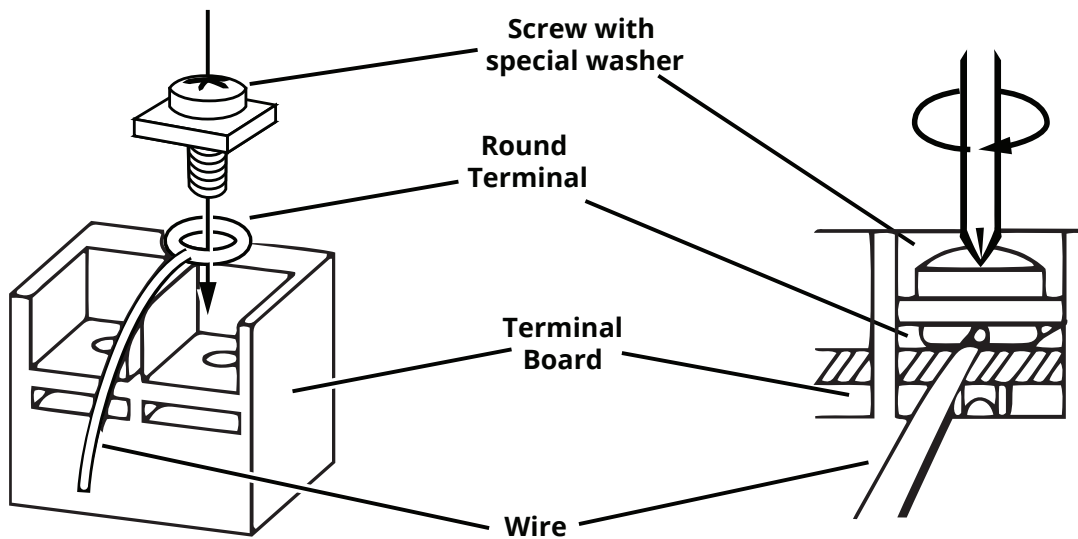

Fig. 2.28
For braided wires (Refer to Fig. 2.27 B & Fig. 2.28):
4. Locate the round terminal conduit. Use a screwdriver to replace it and tighten up the terminal screw (as shown in Fig. 2.28).